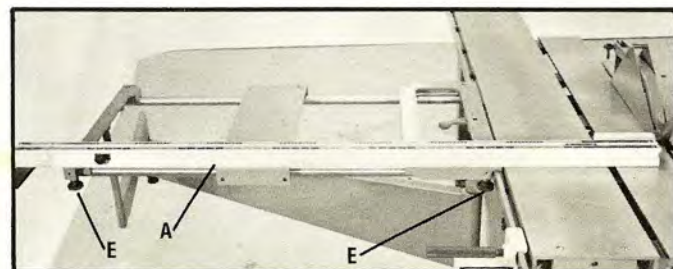

Fig. 22
7. Assemble cross-cut fence (A) Fig. 22, to the sliding table extension as shown, and clamp in position using the two clamp knobs (E).